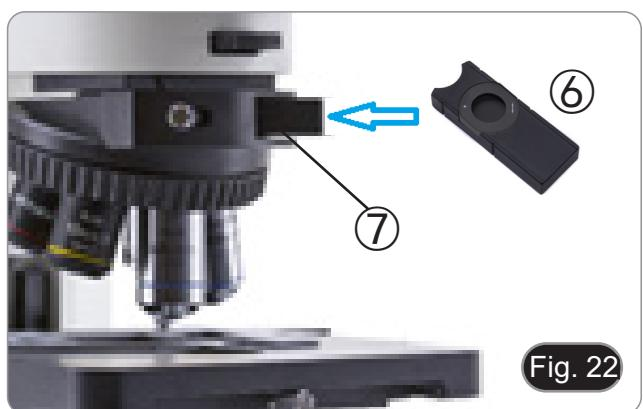

Fig. 22
3. Remove the dummy slider from the nosepiece and insert the analyzer into the dummy slider, then insert the ⑥ assembly into the slot ⑦. (Fig. 22)